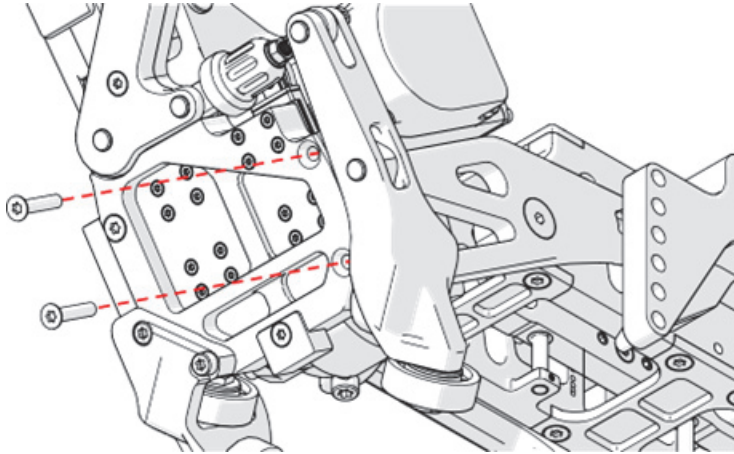

Figure 2-8 Remove two screws
9. Using a T25 Torx driver, remove two screws from the motor carriage (see Figure 2-8 on page 89).